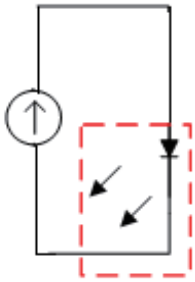
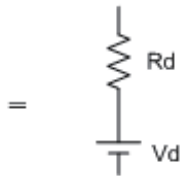

Figure 1
Figure 2
**First of all, we need to determine the load characteristics of an LED :** Figure 1 illustrates the use of a current source to drive LED lights. The LED equivalent circuit consists of two parts, a series resistance  $R_d$  and a series voltage  $V_d$  shown in Figure 2. The LED characteristic curve is shown in Figure 3. When the two ends voltage of the LED are greater than the LED equivalent series voltage  $V_d$ , the current flows through the LED  $I_o$  is  $(V - V_d) / R_d$  that is the equivalent resistance.
LED mode : LED mode is for the simulation the equivalent circuit diagram Figure 2 of the LED, Integration of the above CR mode + CV mode, 3341G series LED mode must also set two parameters simultaneously, they are  $V_d$  and  $R_d$  respectively. Figure 14 shows the current waveform and the actual LED load, same as those in Figure 13.